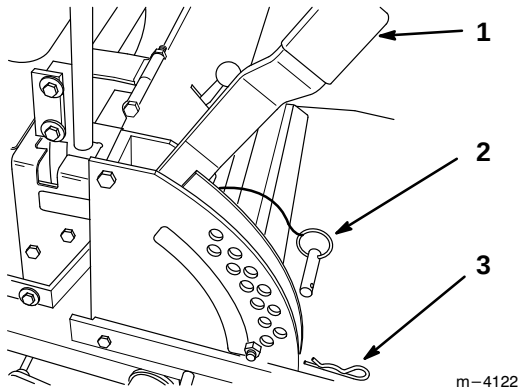

Figure 11
1. Raise the height-of-cut lever to the transport position (also the 5" (127 mm) cutting height position) (Fig. 11).
2. To adjust, remove hairpin cotter and clevis pin from height-of-cut bracket (Fig. 11).
3. Select hole in height-of-cut bracket corresponding to the height-of-cut desired. (Fig. 11).
4. Secure clevis pin with hairpin cotter (Fig. 11).
5. Lower height-of-cut lever onto pin (Fig. 11).